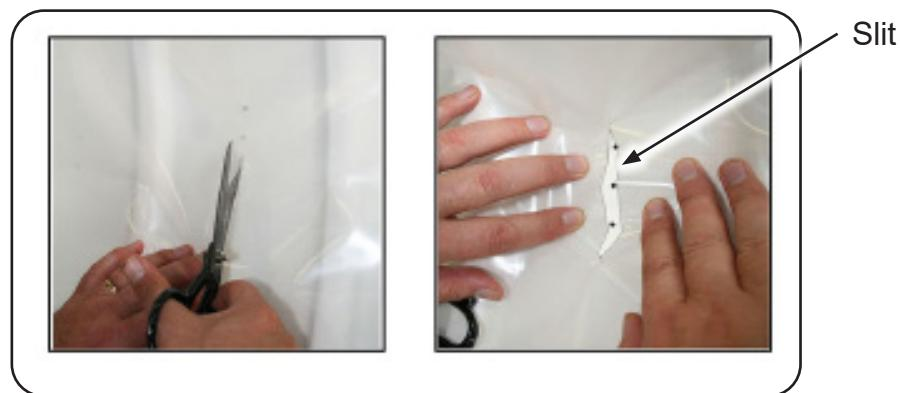

FIGURE A7-4
- (f) Make a 50 mm (2") slit in the plastic sheet where it aligns with the container drainage holes. Refer to FIGURE A7-4.